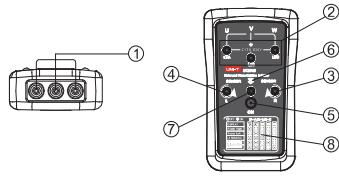

Figure 1
- Press down "ON" button, UT261B power indicator illuminates, release it, the button springs up automatically and the indicator turns off. Therefore need to press down "ON" button in order to begin the test. When ON is pressed down, "Clockwise" (R) or "Counter-clockwise" (L) rotation indicator illuminates, indicating three-phase system is under "Positive" or "Negative" phase sequence.
- Place UT261B towards the motor, in parallel with motor shaft. The bottom of the instrument should face the shaft (namely, UT261B is located in a direction contrary to that of the motor). Refer to Figure 1 for motor location indicator.
See the instrument indicator, button and jack as shown in Figure 1: